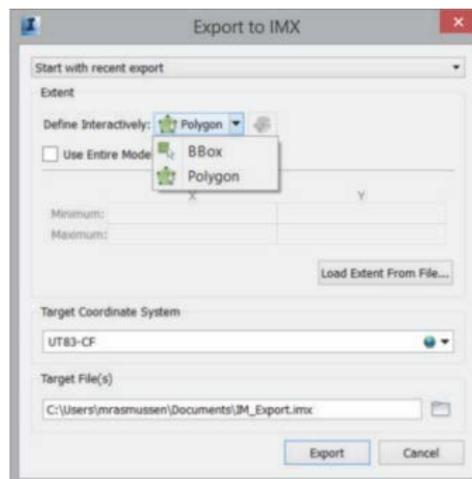

Figure 23
2. In the Export to IMX dialog box, set the model extents in the Defining Interactively drop-down list by selecting **BBox** or **Polygon** (as shown in Figure 23), or by selecting the **Use Entire Model** option.